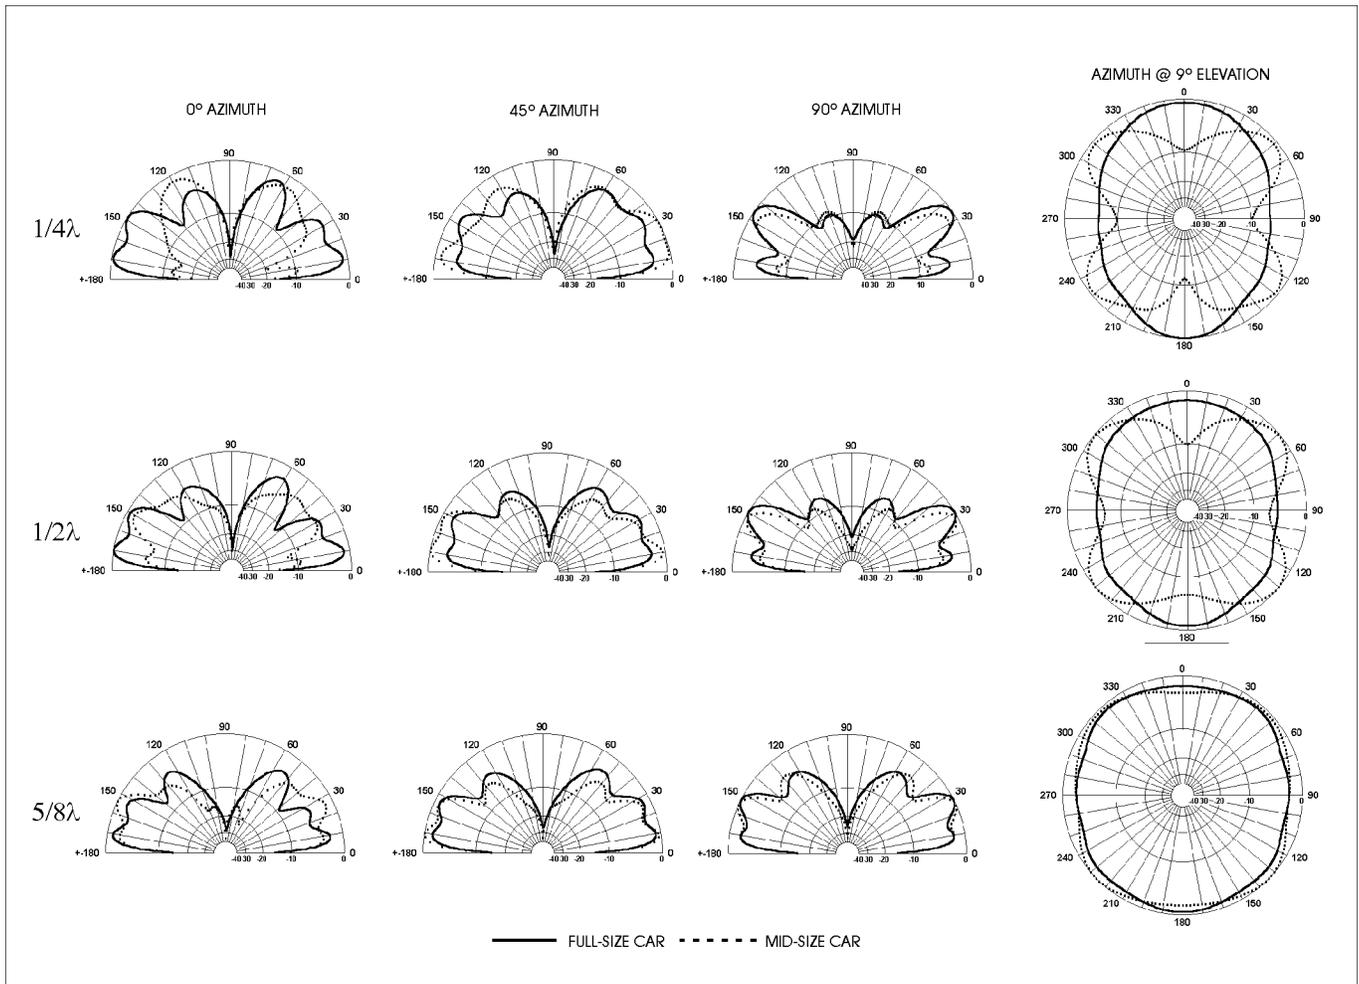

Figure 2 – Elevation and azimuth patterns showing the comparison between the full and mid-sized cars for the three most popular VHF mobile antennas
*NEC* generated comparison plots for the cars with the three antennas are illustrated in Figure 2. The front of the vehicles is oriented at 0° azimuth for all plots. To better illustrate differences, each plot has been normalized consequently the dB reference value for outer ring (0 dB) varies from plot to plot and is not given. We'll discuss gain a little later.
Examining these patterns (Figure 2) we can find only few consistent traits between the cars. One is the greatest variations occur using the 1/4-wave whip and least with the 5/8-wave. Another apparent characteristic is that the maximum variances exist in a plane that follows the vehicle's length. From this we can see that the car's body is playing a significant influence in the antenna's performance. Why so much for similar vehicles?